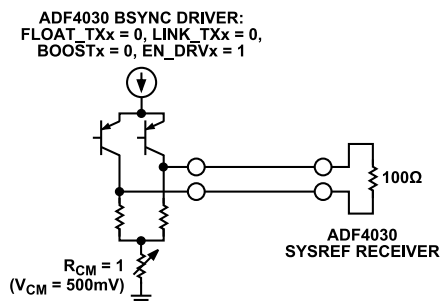
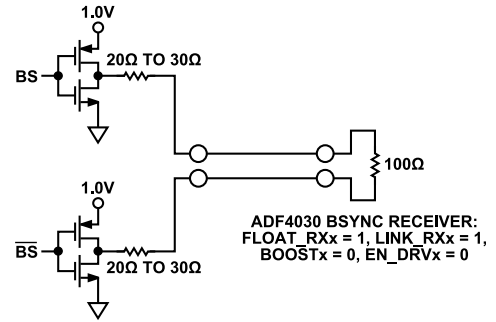

Figure 36. ADF4030 BSYNC to AD9084/AD9088 SYSREF Connection
Figure 37. AD9084/AD9088 SYSREF to ADF4030 BSYNC Connection
- The AD9084/AD9088 SYSREF pins (Figure 36 and Figure 37)